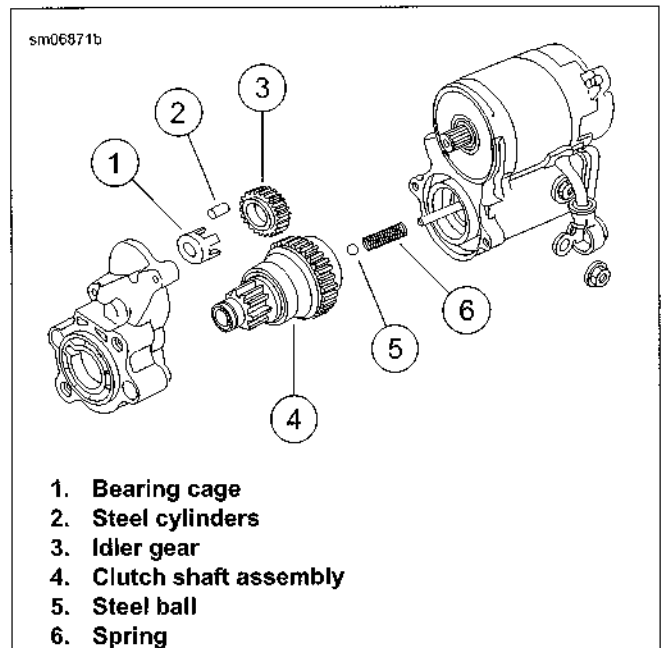

Figure 6-24. Starter Clutch Assembly
2. See Figure 6-24. Install the bearing cage (1) with the five steel cylinders (2).
3. Install the idler gear (3) over the bearing cage.
4. Match the gear teeth to the idler gear and install the clutch assembly (4) in the housing. Seat the bearing in the counterbore.
5. Install the steel ball (5) in the bore of the shaft.
6. Apply a light film of LUBRIPLATE 110 to solenoid plunger shaft. Install return spring (6) on solenoid plunger shaft.